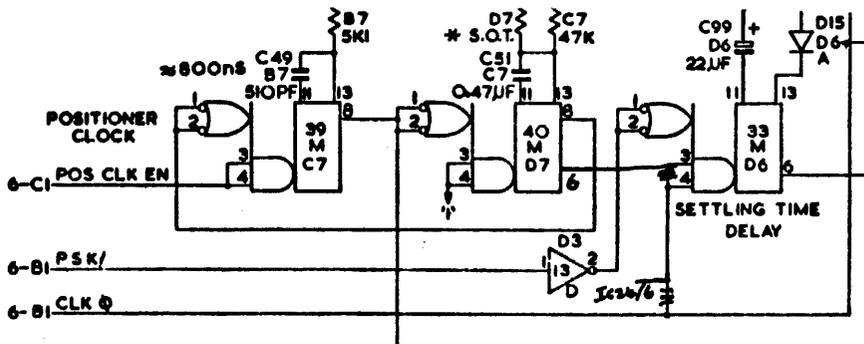

FIGURE 5
13. Update the schematic as shown in figure 5.